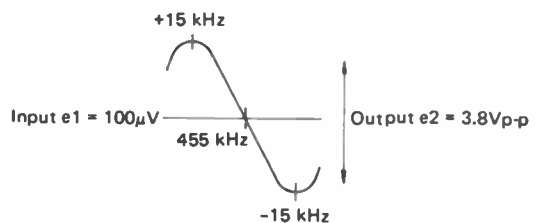

FIGURE 4. IF DISCRIMINATOR CURVE
- Step 3: Adjust T9, T10 of IF amplifier so that the 455 kHz marker is in the center of the discriminator curve and for best linearity as shown in Figure 4.